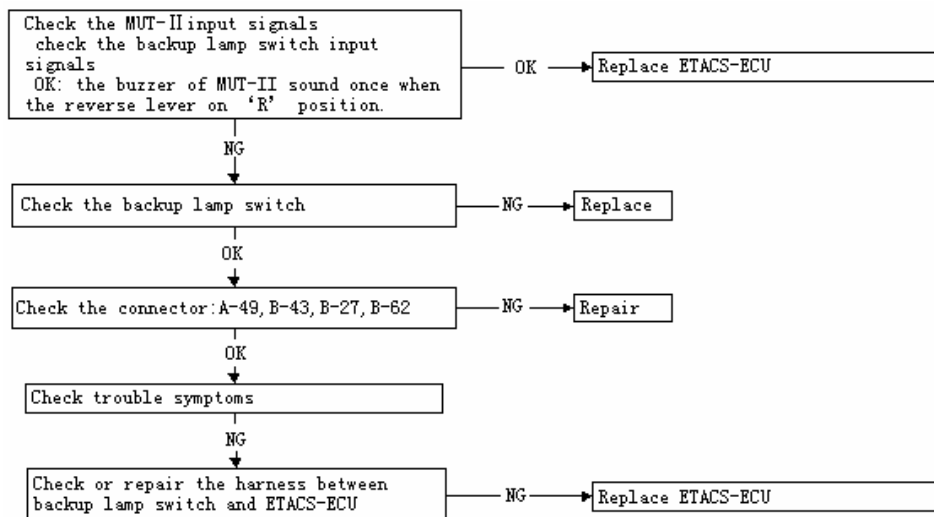

Fig 20-33
7) Trouble symptoms inspection step 5 as table 20-9、fig20-33